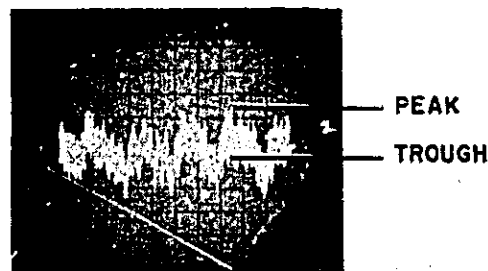

Figure 4-7. Typical Incidental FM Waveform
20. Oscilloscope indication should be less than 10 mV peak-to-trough (1 kHz) as shown in Figure 4-7.